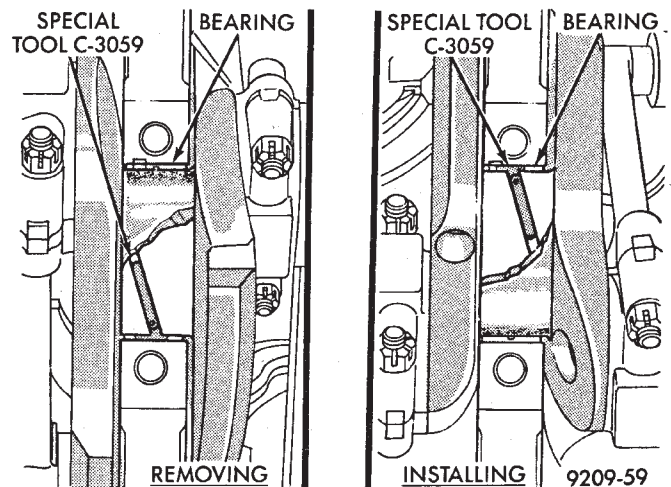

Fig. 33 Upper Main Bearing Removal and Installation with Tool C-3059
- (1) Remove the oil pan.
- (2) Remove the oil pump from the rear main bearing cap.
- (3) Identify bearing caps before removal. Remove bearing caps one at a time.
- (4) Remove upper half of bearing by inserting Crankshaft Main Bearing Remover/Installer Tool C-3059 into the oil hole of crankshaft (Fig. 33).
- (5) Slowly rotate crankshaft clockwise, forcing out upper half of bearing shell.
- (1) Start bearing in place, and insert Crankshaft Main Bearing Remover/Installer Tool C-3059 into oil hole of crankshaft (Fig. 33).
- (2) Slowly rotate crankshaft counterclockwise sliding the bearing into position. Remove Tool C-3059.
- (3) Install the bearing caps. Clean and oil the bolts. Tighten the capbolts to 115 N·m (85 ft. lbs.) torque.
- (4) Install the oil pump.
- (5) Install the oil pan.